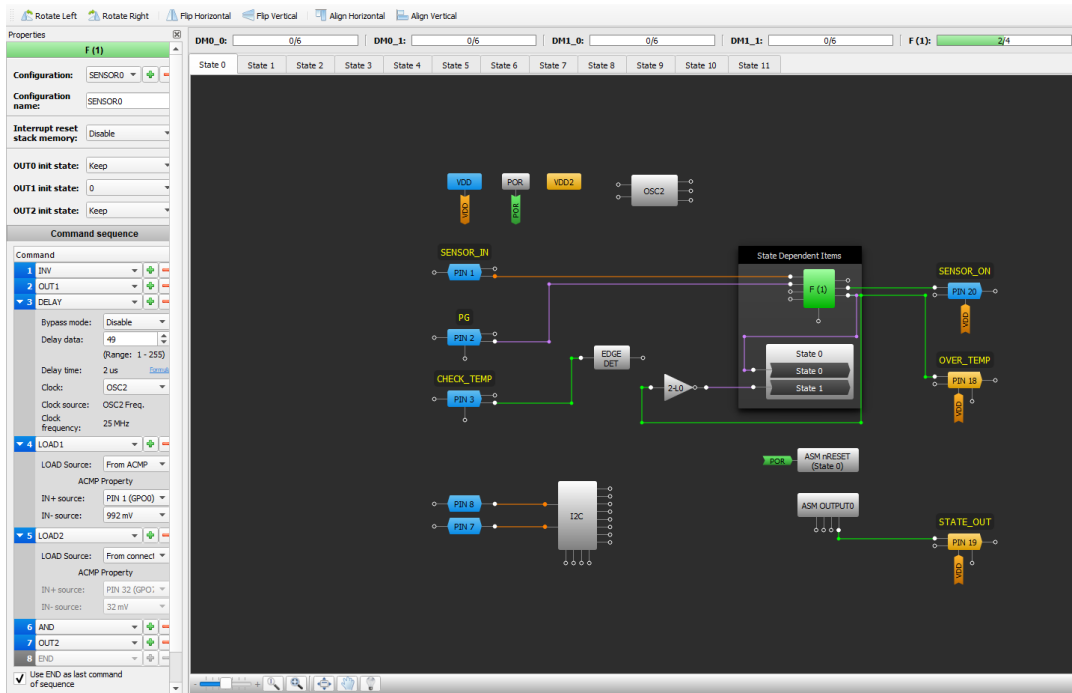
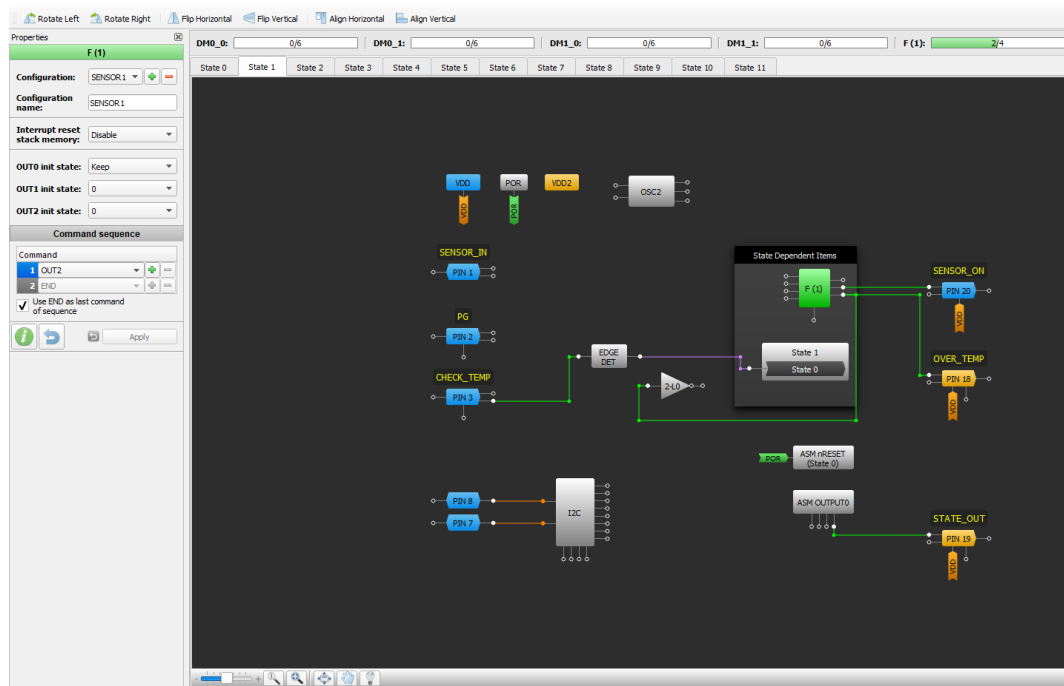
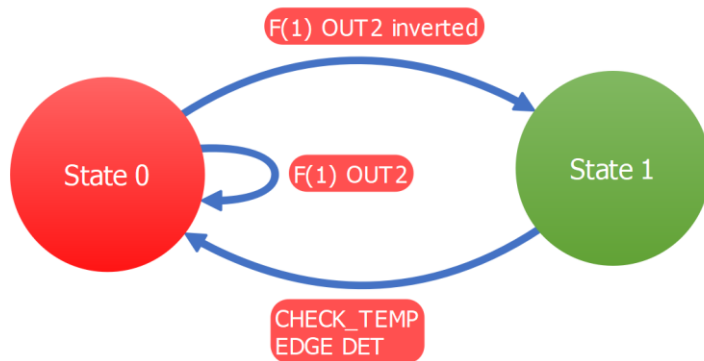

Figure 6: Example #1 Schematic, State 0
Figure 7: Example #1 Schematic, State 1
Figure 8: ASM Diagram
Example #1 of the datasheet provides an example using the F(1) block to detect the voltage of a sensor when the state changes in the ASM (Figure 5). OUT1 is connected to PIN #20 (SENSOR_ON) and OUT2 is connected to PIN #18 (OVER_TEMP). The delay on command 3 is defined as 2 μs. LOAD 1's ACMP IN+ is connected to PIN#1 (SENSOR_IN) and has a threshold of 992 mV. LOAD 2 is connected to PIN #2 (PG). See Figure 6 and Figure 7 for a view of the schematic in GreenPAK Designer. See Figure 8 and Figure 9 for a view of the ASM settings.